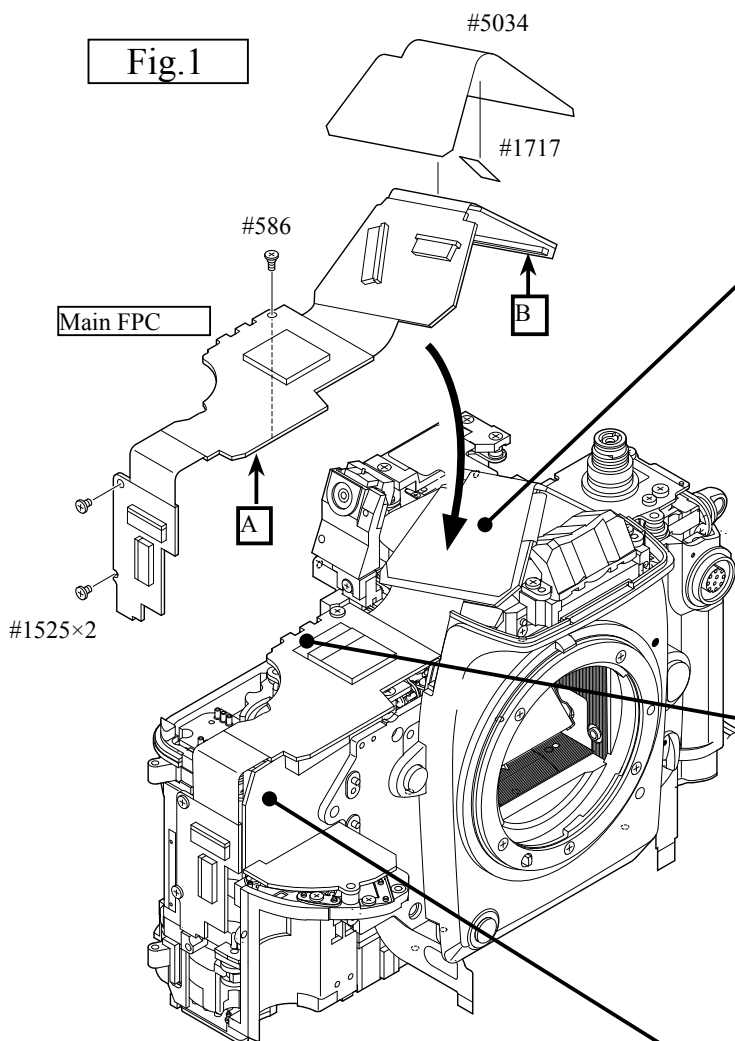

Fig.2
- ② Connect the connector **C** and **D**. (Fig.2) Attach the insulating sheet (#5034)(Fig.1) with the both-sided adhesive tape (#1717).